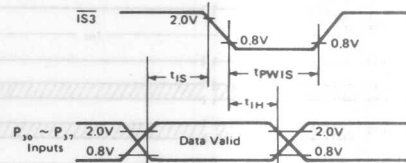

Figure 6 Port 3 Latch Timing (Single Chip Mode)
The function of the $\overline{\text{IS}}_3$ signal depends on the I/O Port 3 Control/Status Register. If $\overline{\text{IS}}_3$ Enable bit is set, an interrupt will occur by the fall of the $\overline{\text{IS}}_3$ signal. If the latch enable bit is set, the data in the I/O Port 3 will be latched at the I/O Port 3 Data Register. The timing condition of the $\overline{\text{IS}}_3$ signal that is necessary to be latched the input data normally is shown in Figure 6.
Single Chip Mode: Parallel Inputs/Outputs as programmed by its associated Data Direction Register. There are two control lines associated with this port in this mode, an input strobe and an output strobe, that can be used for handshaking. They are controlled by the I/O Port 3 Control/Status Register explained at the end of this section. Three options of Port 3 operations are summarized as follows: (1) Port 3 input data can be latched using $\overline{IS3}$ (SC_1) as a control signal, (2) $\overline{OS3}$ can be generated by either an CPU read or write to Port 3's Data Register, and (3) and $\overline{IRQ_1}$ interrupt can be enabled by an $\overline{IS3}$ negative edge. Port 3 latch and strobe timing is shown in Fig. 5 and Fig. 6.